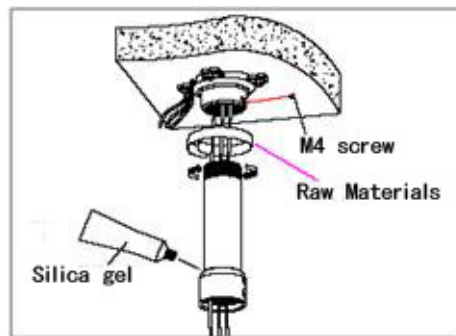

Fig. 14
c. As shown in the Fig 14, tighten the boom with electrical wire and cable through it on the base of ceiling and screw up the M4 screw.